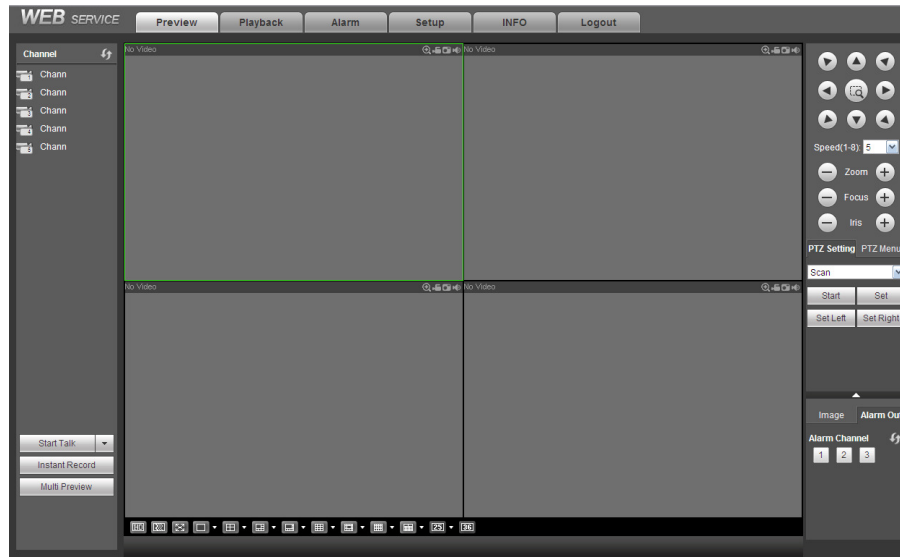

Figure 4-16
- 2) You can select different channels and different monitor modes at the bottom of the interface. See Figure 4-16.